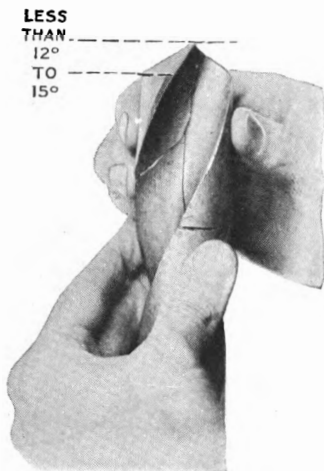

Fig. 12
- 31 If *insufficient* surface is ground away, in other words, if the angle is made *less* than twelve degrees, the clearance of the point is so reduced that it ceases to be a cutting edge and refuses to bite into the metal — as in Figs. 2 and 6. This condition may result in splitting the drill up the center. (Fig. 12.)
- 58 A drill which *splits* up the web (Fig. 12) is also evidence of too much feed for the amount of lip clearance. Decrease the feed or increase the lip clearance — or both. (See Par. 31).